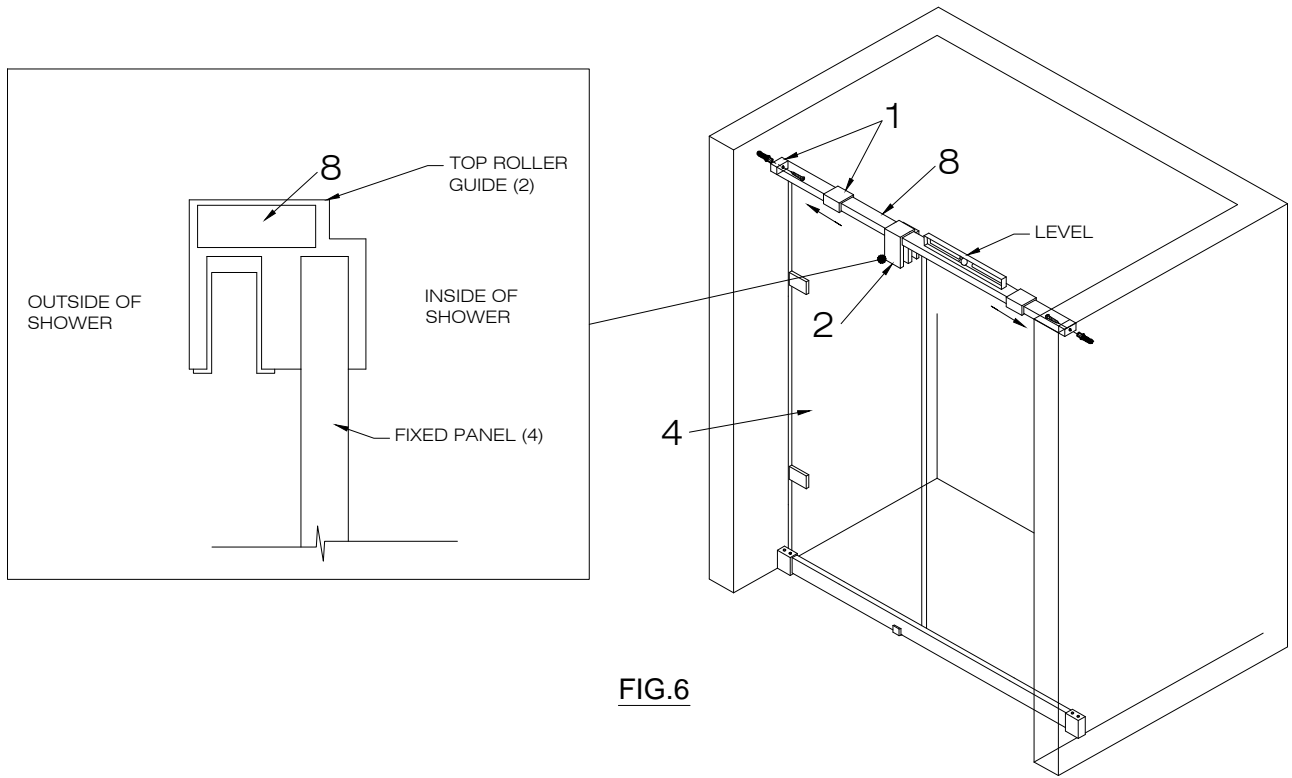

FIG.6
2. Place the top wall mount brackets (#1) on both ends of the top structural rail (#9), if not already done. If the structural rail is too long, then cut it with the hacksaw until it fits the opening. [SEE FIG.6]
3. Position the top roller guide (#2) onto the fixed panel. [SEE FIG. 6]